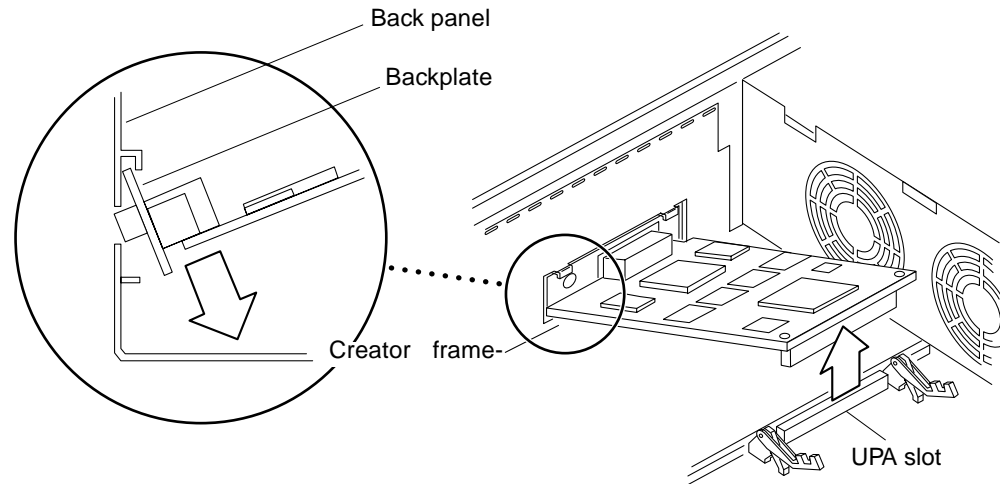

Figure 2-5 Removing the Creator Card
- 3. Grasp the Creator card at both corners, and gently pull both corners up to disconnect the Creator card from the socket (Figure 2-5).**